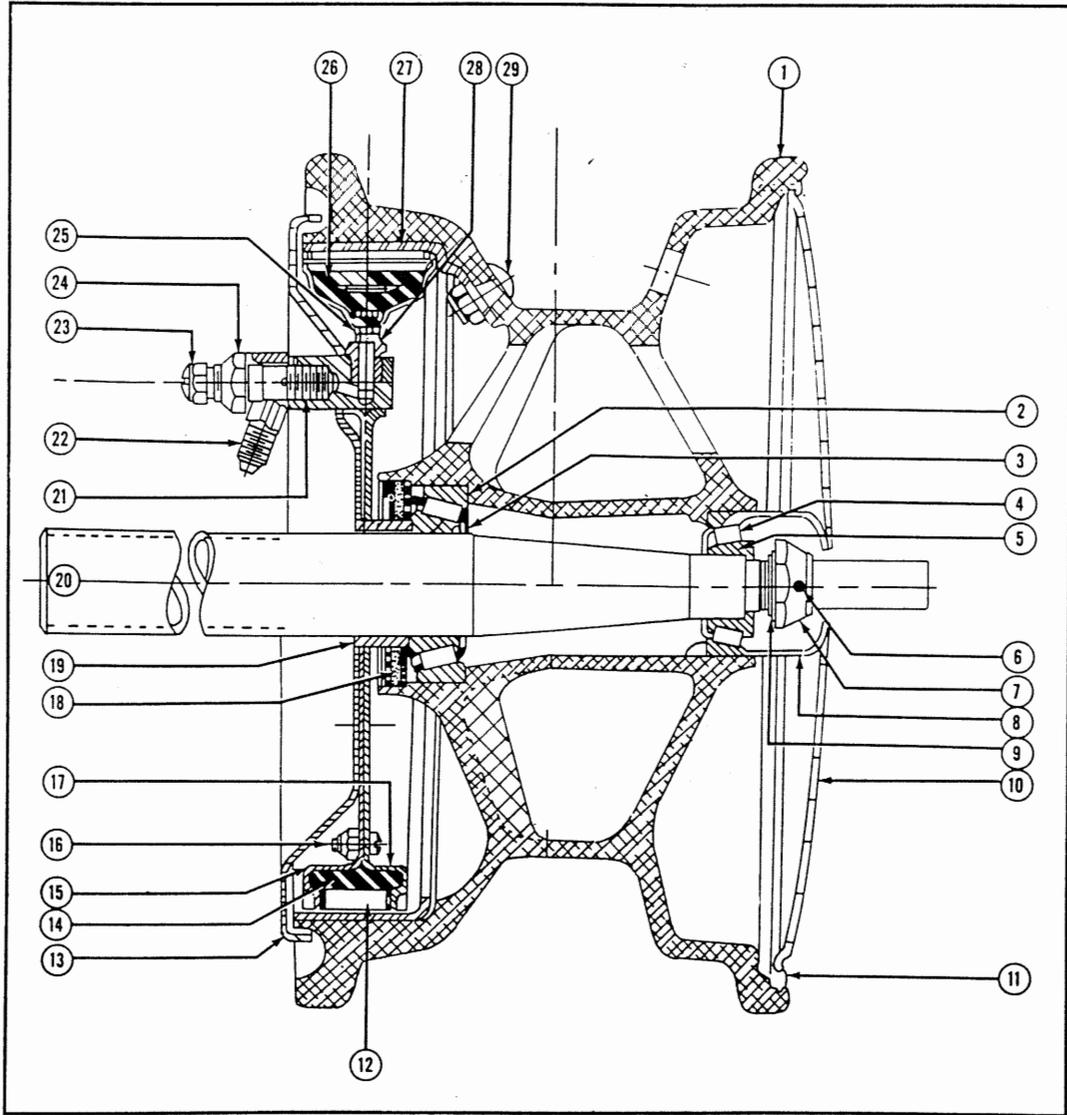

Figure 3-29—Expander Tube Brake and Wheel Assembly
With two of the blocks in place insert one of the retractor links in the slot as shown in detail B, pushing the spring in as far as possible. With a screw driver push the spring down to the left until the position shown in "C" is reached. The screw driver can then be removed and by pressing on the right end of the spring it will snap into position as shown in the bottom of the cross section of the brake. (See figure 3-29.) If brakes are equipped or are to be equipped with tube shields, one of these is placed on each space between the ends of the block at the time the blocks are assembled. In reconditioning these brakes if the lining is worn off 1/16" then the lining retractor springs and tubes shall be replaced. If leaks are noticeable in the expander tube it must be replaced by a new one. No repair can be attempted on the tube.
**REASSEMBLY OF BRAKE WITH NEW EXPANDER TUBE.** To reassemble the brake with a new expander tube (See figure 3-29), lay brake frames (15 and 17) with the outer flange down, insert the connector (21) with the rubber packing (28), the washer, and the nut, and tighten nut (25) slightly to hold the expander tube nozzle in position. The expander tube can then be stretched onto the frame by working both ways from the nozzle, pushing it on with the fingers or stretching it with a tool which must have rounded edges so as not to injure the tube. The expander tube can be pressed down on the frame and will stay in position. The frame can then be properly located and pressed down into the expander tube, after which the screws and the nuts (16) can be installed along with the two screws which